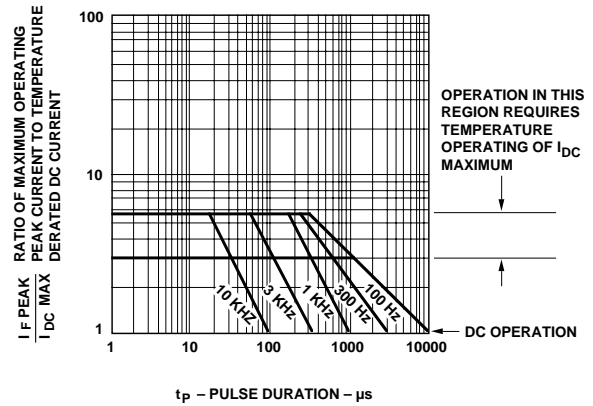

Figure 6. Maximum Tolerable Peak Current vs. Pulse Duration - Yellow.
5. See Figure 6 to establish pulsed conditions.